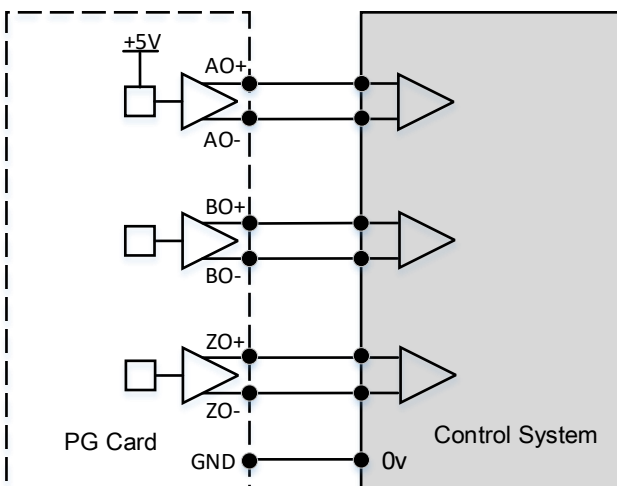

Figure 8 Differential pulse divider
- 5、 The differential pulse frequency division output is connected to AO+/AO-, BO+/BO-, ZO+/ZO-, 0V is connected to **GND**, as shown in **Figure 8**.